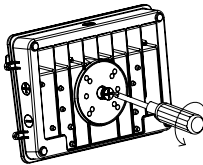

Figure 5
5. Use a screwdriver to remove the plug, Attach the EVA cotton pad to back. (Figure 5)